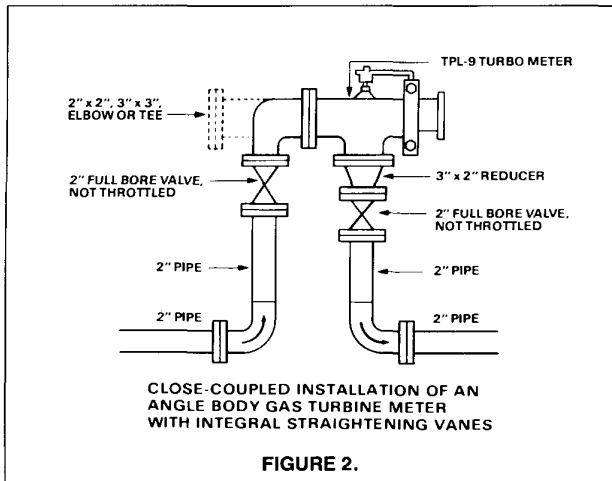

FIGURE 2.
**2. Horizontal, Close-Coupled**—(inlet horizontal, outlet down) Extensive testing of TPL-9 Turbo-Meters at various flow rates and pressures resulted in the evolution of the depicted close-coupled installation which uses either an elbow or tee flanged directly to the meter inlet. As with the previously described set, these fittings may be of the reducing type. (Figure 2)